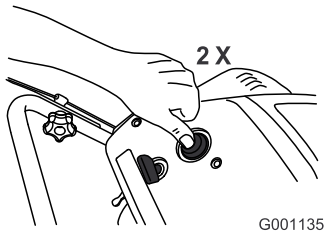

Figure 13
3. Firmly push in the primer 2 times with your thumb, holding the primer in for a second before releasing it each time (Figure 13).